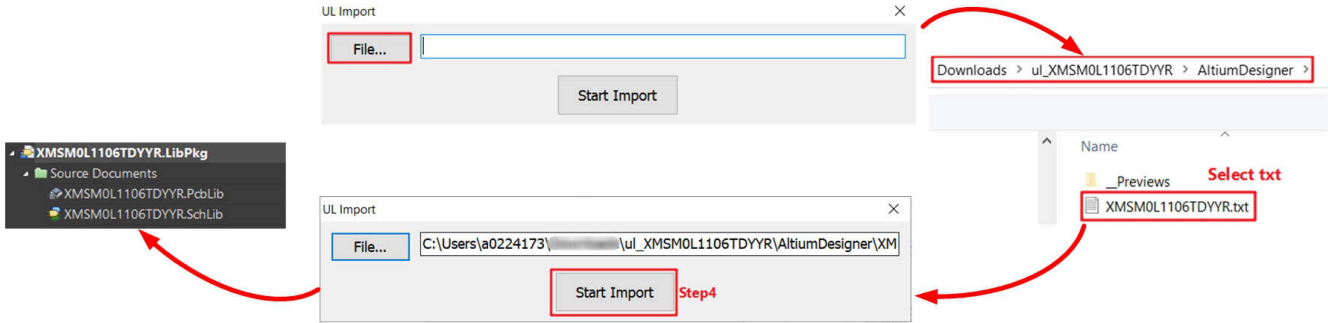

Figure 6-15. Generate Library
5. Generate PCB library and schematic library as shown in Figure 6-15.